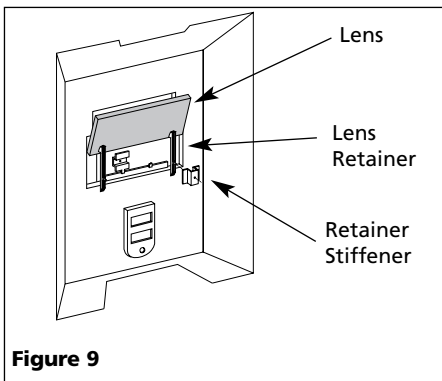

Figure 9
3. Attach the stiffeners over the pins on the lens retainers (See Figure 9).